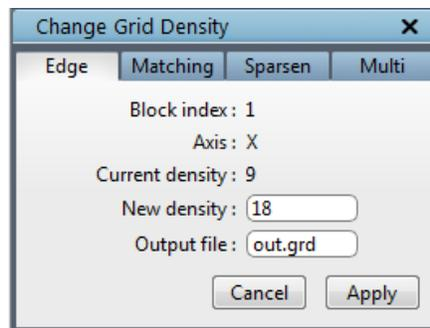

Figure 5.21: Density dialog box
*Density* button has four tabs, each performs different operations as follows. Once you click on the Density button, Change Grid Density dialog box opens as shown in Figure 5.21. By default, the tab is set to *Edge*. The density of a particular edge group can be changed using the *Edge* tab. Open the dialog box and click on the desired edge whose density has to be changed. The selected block index will be updated in the dialog box. Enter the new density for the selected edge and click on *Apply* to see the changes. When the *Apply* button is clicked, a new grid file is created with the name specified in the *Output file* input field and automatically loaded into the UI. Once the new grid is loaded, the old grid will be switched off, which can be switched on again from the **Grid Toggling** section. The density of an edge of a block can also be changed by using *Change density* option from right click menu. Selecting *Change density* option from the right-click menu of a grid block edge will open the same dialog box as shown in Figure 5.21.